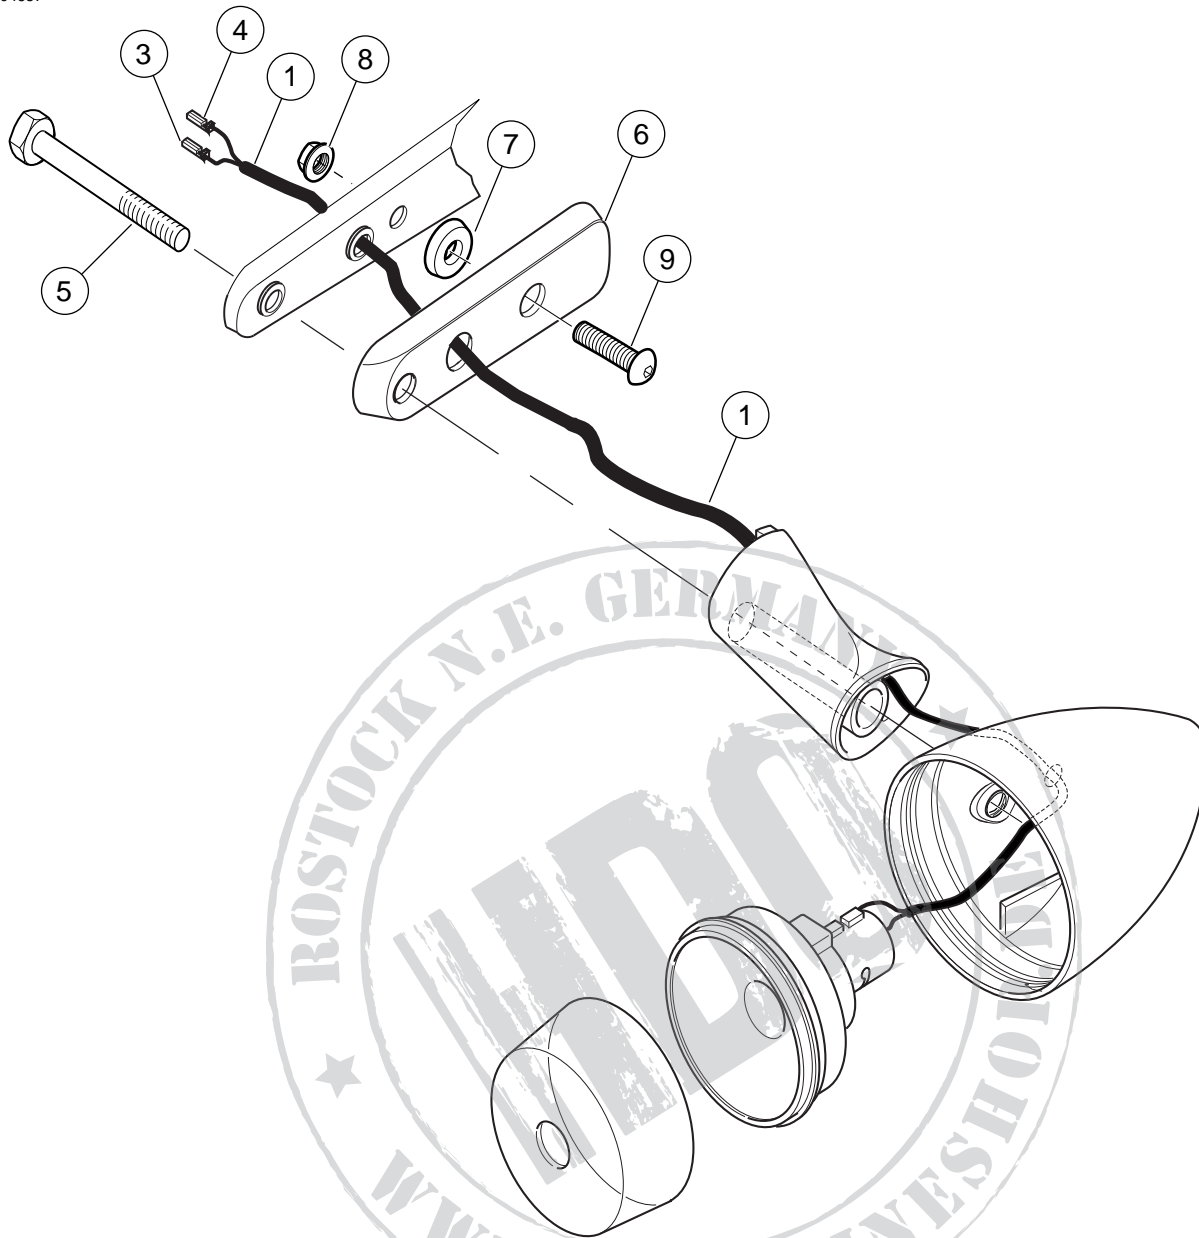

Figure 6. Service Parts: Rear Turn Signal Relocation Kit for Installation with Kits 91010-91A and 91004-94
12. See Figure 6. Using a small piece of tape, tack the thick spacer (7) from kit between rear strut and fender support cover. Insert the button head screw removed in Step 6 through the fender support cover hole from where the stock rear turn signal support was removed.
2. See Figure 6. Insert mounting screw (5) into hole from inside of fender out through rear hole at narrow end of relocation pad (6). Apply Loctite 242 (blue) on exterior threads of mounting screw (5).
3. Slide turn signal stalk and housing on mounting screw and thread mounting screw (5) into turn signal housing and tighten. With a 5/8 inch box-end wrench on mounting screw (5) flat section, tighten screw, while holding turn signal housing in proper location, to 132-216 **in-lbs** (14.9-24.4 Nm).
6. Install button head screw (9) from kit through forward most hole of relocation pad (6), fender support cover, thick spacer (7) (taped to frame) and fender strut. Reinstall using original nut removed in Step 6 of Removal section.
7. Tighten button head screws (9) to 132-216 **in-lbs** (14.9-24.4 Nm).
1. See Figure 6. Using a small piece of tape, tape spacer (9) from kit to frame over hole from where the rear turn signal stud was removed.
4. From the inside of the fender, insert a 5/16-18 x 4.1 inch bolt (18) through the hole at the narrow end of the rear most hole in fender, through fender support and cover, and out through the hole at the narrow end of the rear relocation pad (1).